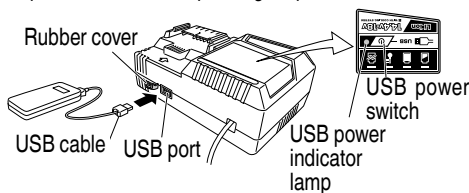

Fig. 10
### (2) Turn the USB power switch ON (Fig. 10)
### (3) Connect the USB cable. (Fig. 10)
- Turn the USB power switch OFF and unplug the power cord from the electrical outlet. (Fig. 10)